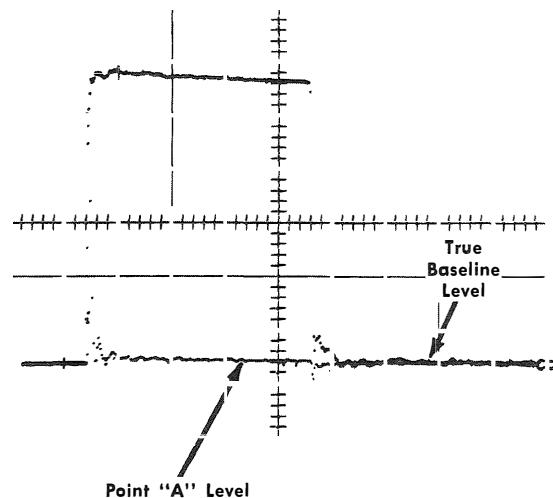

Fig. 6-4. Displayed pulse of Type 110 Pulse Generator with one
baseline under the pulse; see Fig. 6-4).
"A" level in Fig. 6-4) under the pulse with the true baseline
4. Adjust the B PREAMP SENS. to align the baseline under the pulse with the true baseline (Fig. 6-4).